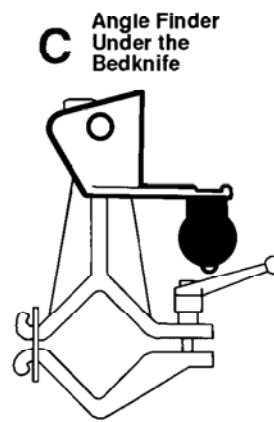

FIG. 35
- c. If you are unable to use a top-face surface, place the angle finder under the bedknife. See FIG. 35. Because the angle finder has two scales (one on each side of 0), you can calculate the grinding wheel angle in the same way as the example above.
FIG. 35 assumes that the bottom of the bedknife is parallel to the bedknife mounting surface. If not, you will have to adjust your calculations accordingly.